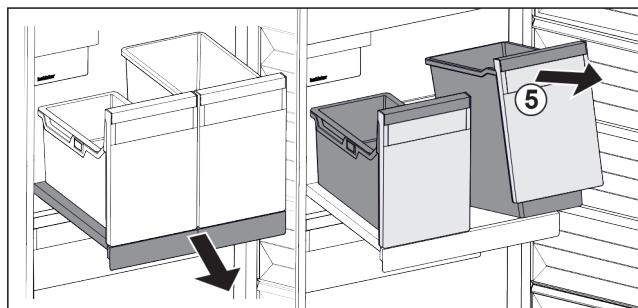

Fig. 123
- ▶ Lift the container Fig. 123 (5) at the front.